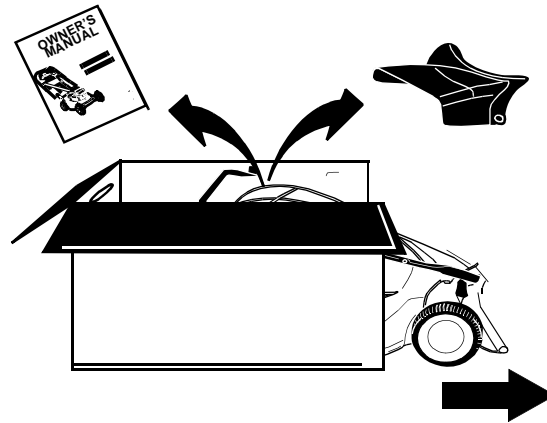

FIGURE 1
- Remove loose parts if included with unit (i.e., owner's manual, etc.). See Figure 1.
- Roll or slide unit out of carton. Check carton thoroughly for loose parts. See Figure 1.